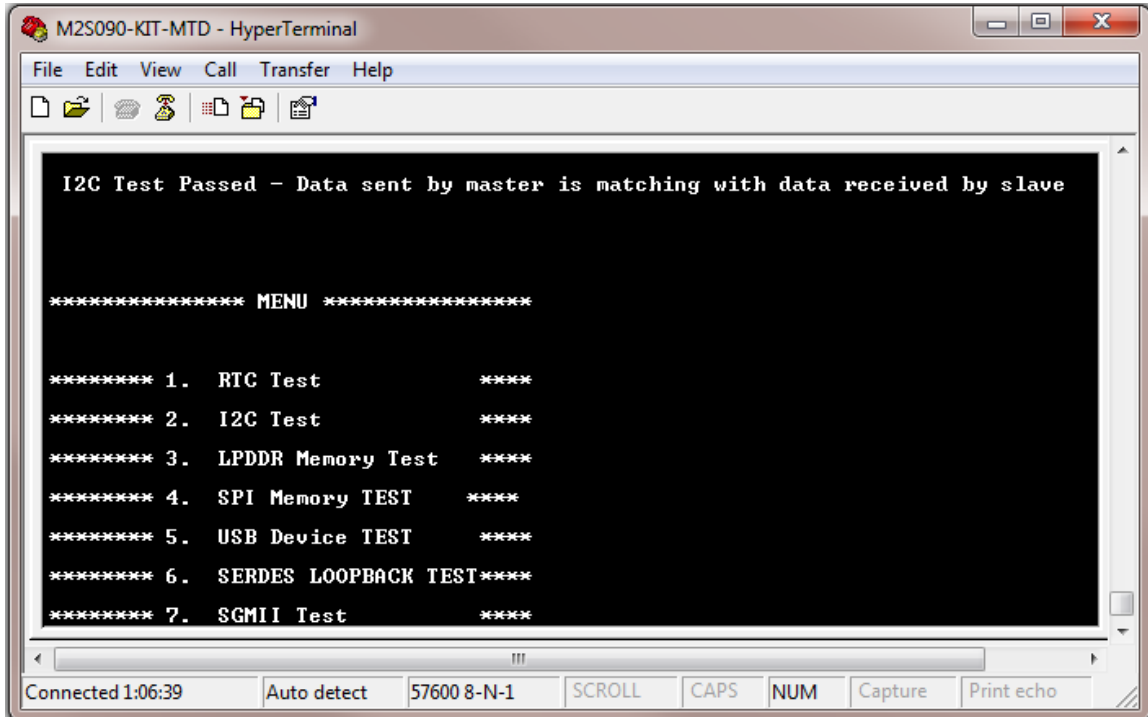

Figure 40 I2C Test Passed
- Press 2 to run the I²C loopback test. Refer to Figure 40.